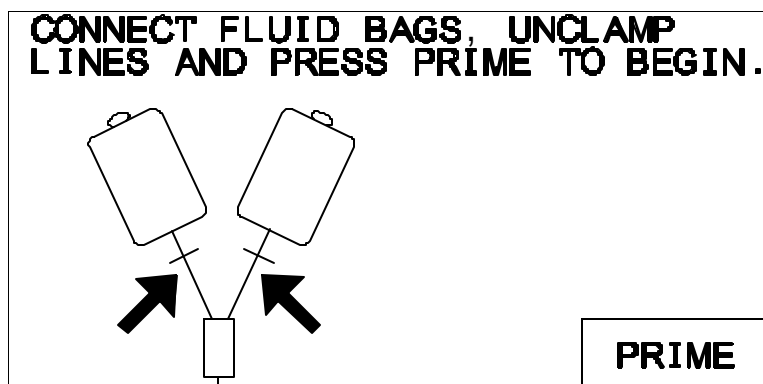
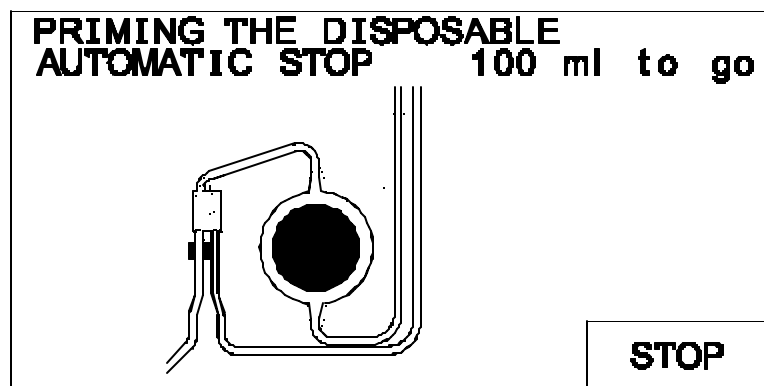

Figure 2. Prime screen
Figure 3. System priming
5. PRIME screen, Figure 2, will appear.
- ▶ Press NEXT to go to the PRIME screen, Figure 2.
- f. Press the PRIME key to initiate prime, Figure 2. The infuse line is closed off by the valve and fluid is sent through the disposable set at 500 ml/min. The prime volume countdown is displayed on the screen, Figure 3. One hundred milliliters of fluid is circulated to prime the system.